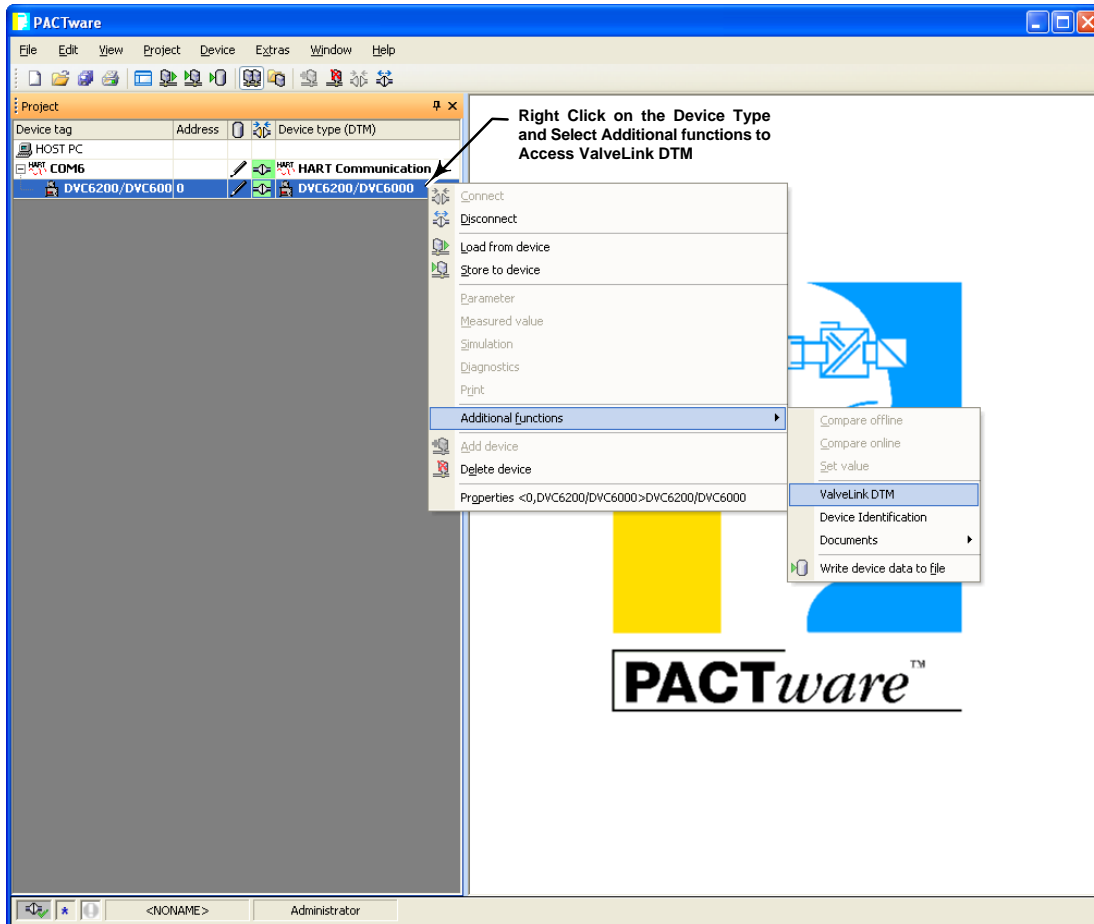

Figure 5-6. Select ValveLink DTM
**Step 6:** Once connected, select ValveLink DTM as shown in figure 5-6.